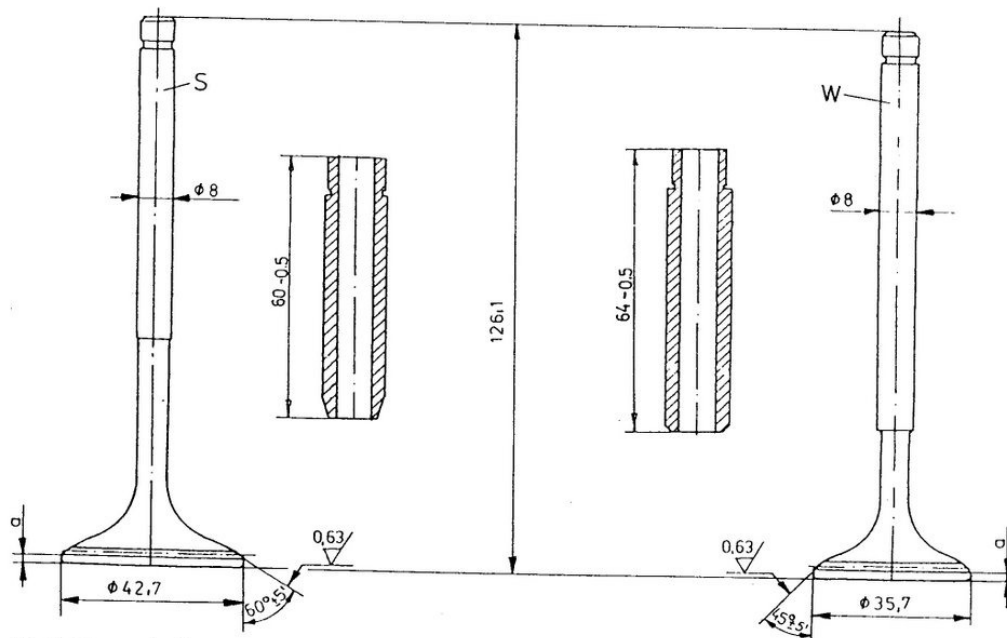

Fig. 32. Valves and guides
- If there is an excessive wear of valve working surface, valve head, stem if there are pits or fractures the valve should be replaced (Fig. 32).
2. Valve seats for valves which are qualified for further use should be ground with a special grinder, according to requirements given in Table 20 and Fig. 32. Run out of the working surface of valve in relation to the valve stem should be not greater than 0.013 mm.
3. In case when a grinder is not available a valve seat working surface can be lapped jointly with a valve head working surface. Achieve earlier such size of the working surface of a valve seat as are given in the item 1, then you can start lapping. For premachining of a valve seat working surface use a cone mill with apex angle  $120^\circ$  for an inlet valve seat and  $90^\circ$  for an outlet valve seat.